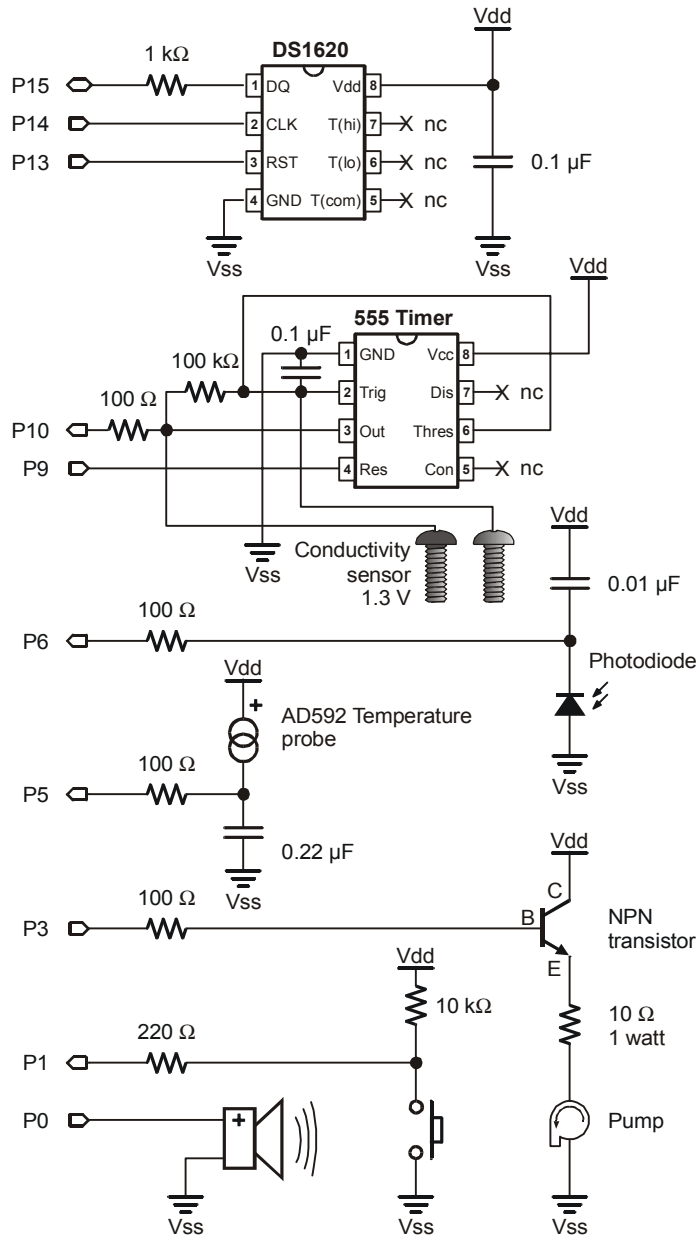
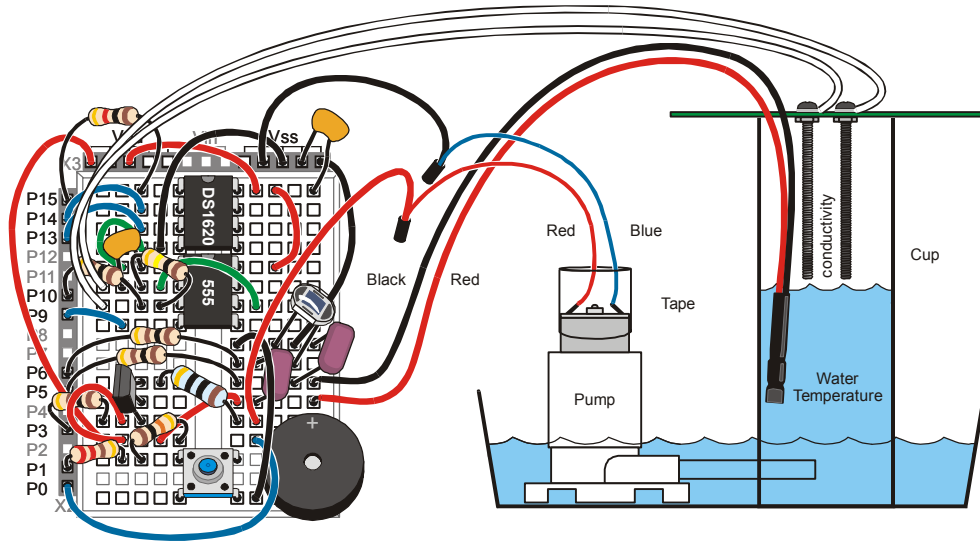

Figure 6-2
Figure 6-3: Pump Control with Transistor Wiring Diagram for the Board of Education
- √ Add the transistor and pump circuit to the Board of Education, following the schematic in Figure 6-2 and the wiring diagram in Figure 6-3.
- √ For the moment, lay the conductivity sensor aside, but it will rest across the rim of the cup as shown in Figure 6-3 later on in the experiment.